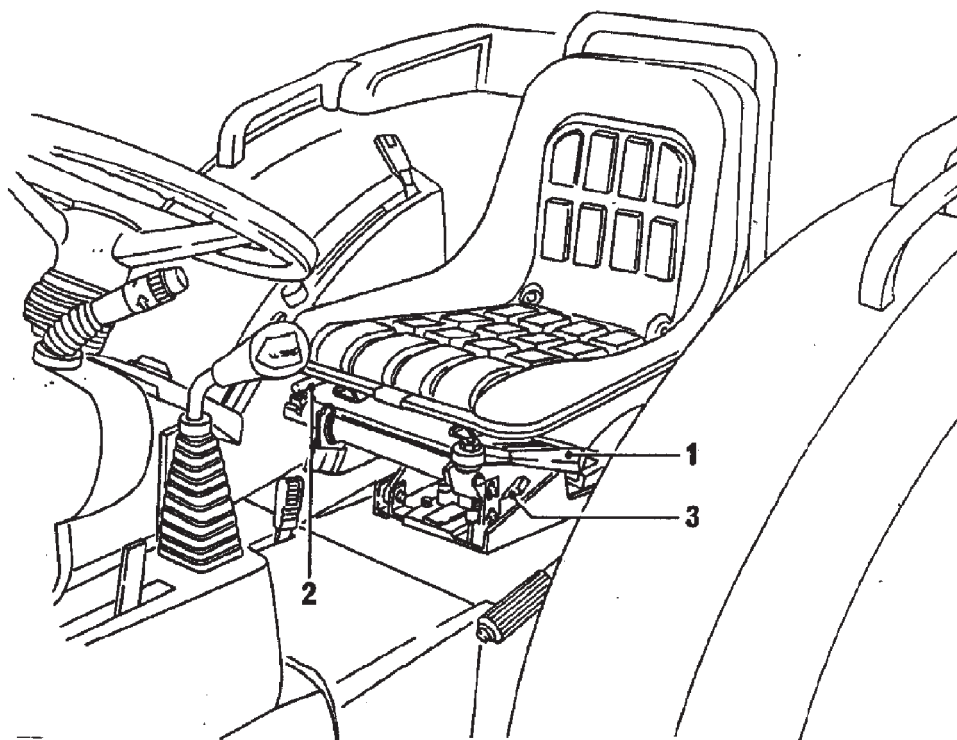

Fig. 10 - Driver's seat
- adjustment of seat springing to suit the driver's body weight (act on lever 1 Fig. 10);
- longitudinal seat adjustment, which will cause the seat to slide forwards or backwards according to driver's body size and personal preference (2 Fig. 10).